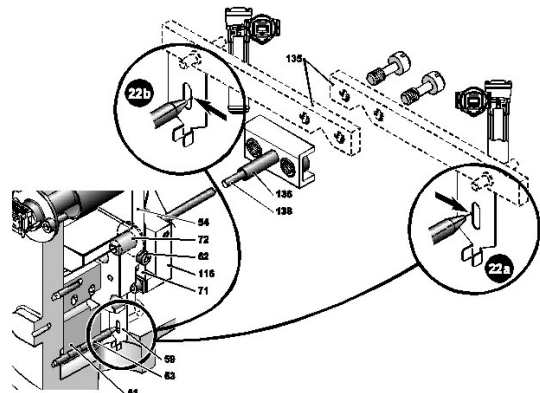

Figure 25 – Identifying the coupling between the beam (54) and torque rod (138) as a function of case mounting direction relative to displacer position.
9.4 Mounting of DLT Case and Torque Tube Sub-Assembly (Figure 25)